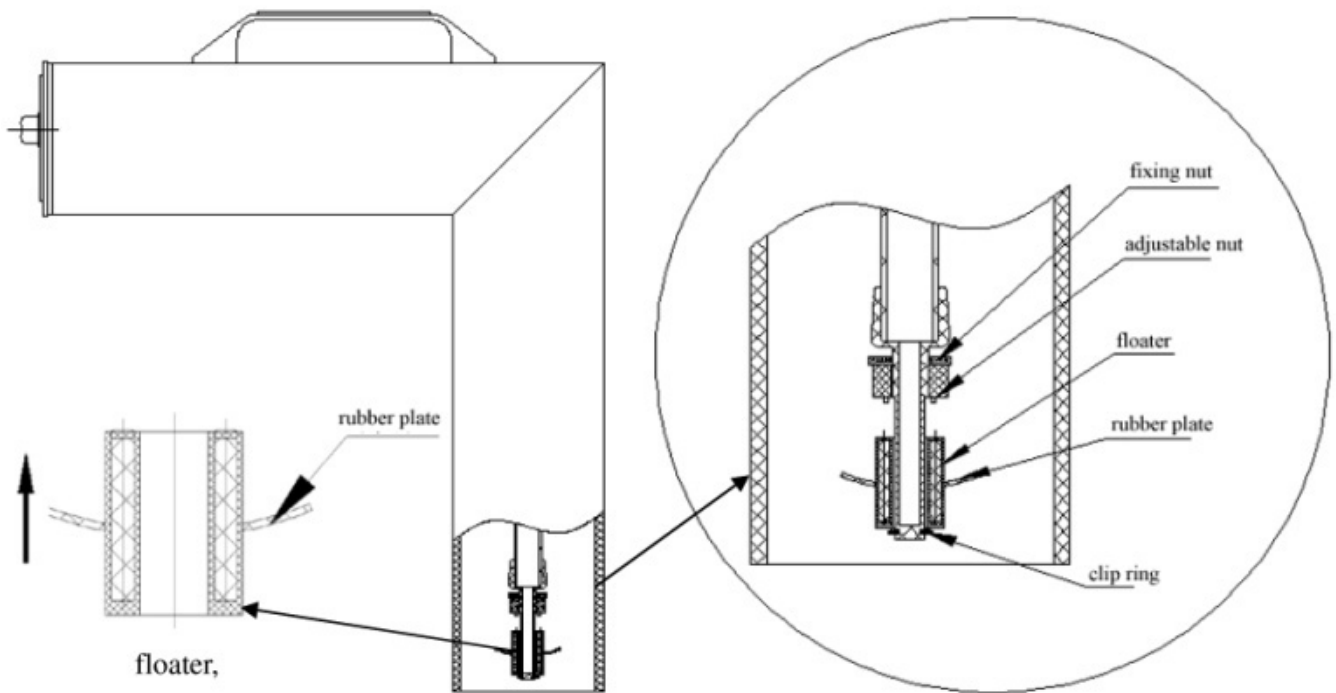

FIGURE 3-1
A. (See Figure 3-1) Refer to the above mentioned drawing to note each part of the sensitivity adjuster.